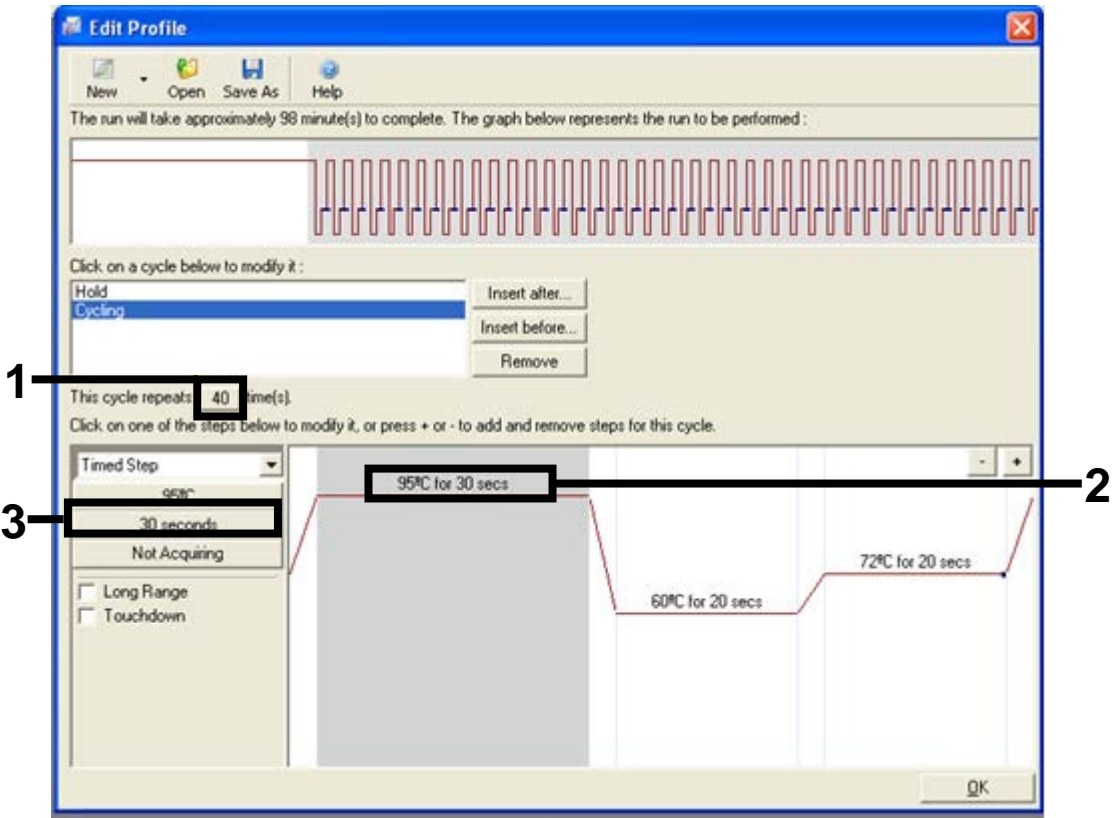

Figure 26. Cycling step at 95°C. (1 = "Cycle repeats" box, 2 = Step one temperature setting, 3 = Step one time setting).
8. Change the number of cycle repeats to 40. Select the first step and set to 95°C for 30 secs (Figure 26).